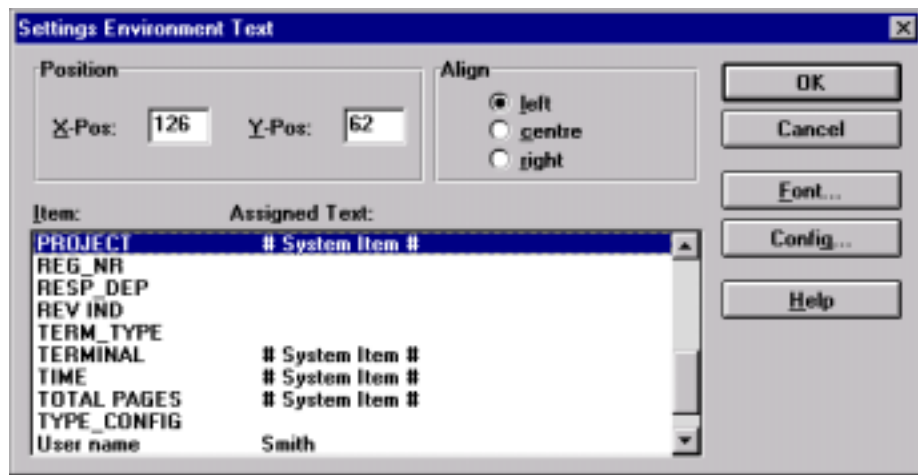

Fig. 54 The Settings Environment Text dialog box with the new item.
- 1 Select 'Close' or 'Close All' in the File menu. If you have not saved the page layout, the dialog box in Fig. 54 appears.